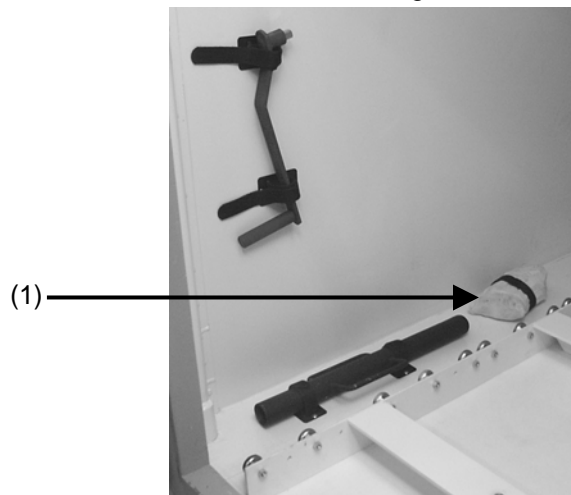

Figure 2-28. Mechanical room in container.
1. Retrieve bag of 3/8" detent rail bolts and lock washers (1) from inside mechanical room of container (Fig. 2-28). There should be a total of 84 bolts in bag.